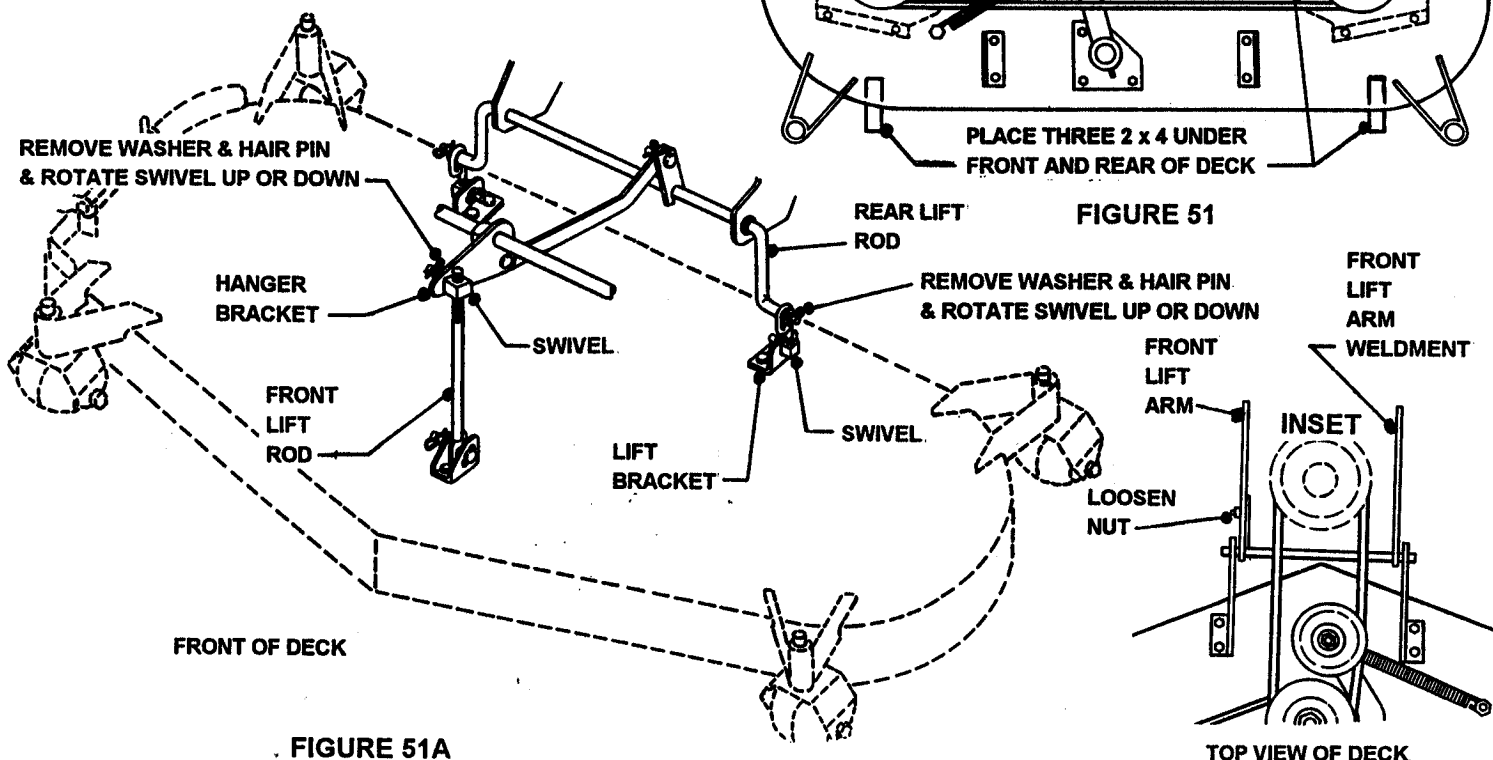

FIGURE 51A
7. Rotate swivels on both sides up or down to achieve the proper levelness. See Figure 51A.
5. Reinsert swivel/lift rod into hanger bracket. Reinstall washer & hair pin. See Figure 51A.